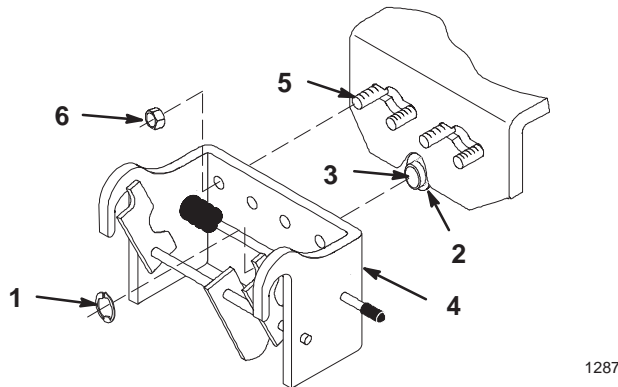

Figure 5
1. Remove the E-ring and all washers except one thick washer from the front axle pivot pin of the tractor (Fig. 5).
4. Install four 3/8-16 x 1 in. (25 mm) carriage bolts into keyhole slots in axle bracket (Fig. 5).
6. Place the front hitch onto the tractor, securing it with four 3/8 in. locknuts and the previously removed E-ring (Fig. 5).